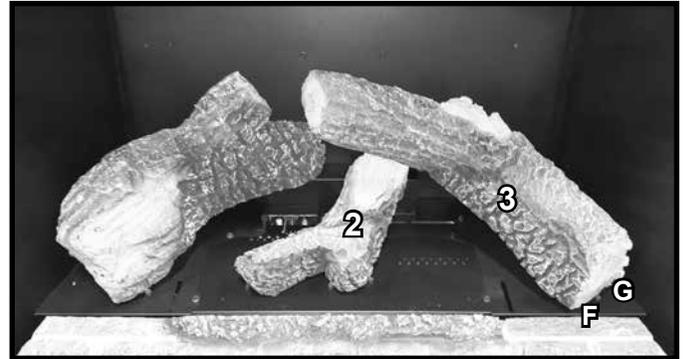

Figure 21 Log #3 Installed
**LOG #3:** With the burnout facing left, place the big end of Log #3 against log pin F and slide back until it contacts log pin G as shown in Figure 21. The small end will sit on the flat spot of Log #2. The front edge of Log #3 directly above Log #2 should measure 4 inches from the rear of the firebox when no liner kit is installed and should rest on Log #2. The front edge of Log #3 directly above Log #2 should measure 3-3/8 inches from the rear refractory when a refractory kit is installed and should rest on Log #2.